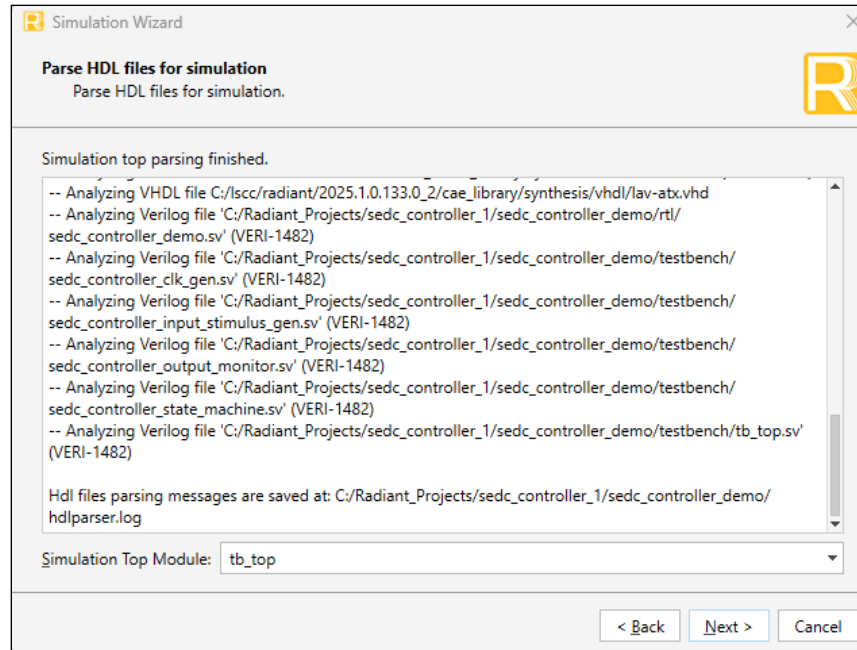

Figure 5.6. Parse HDL files for Simulation
3. Click **Next**. The **Parse HDL files for simulation** window opens as shown in Figure 5.6.